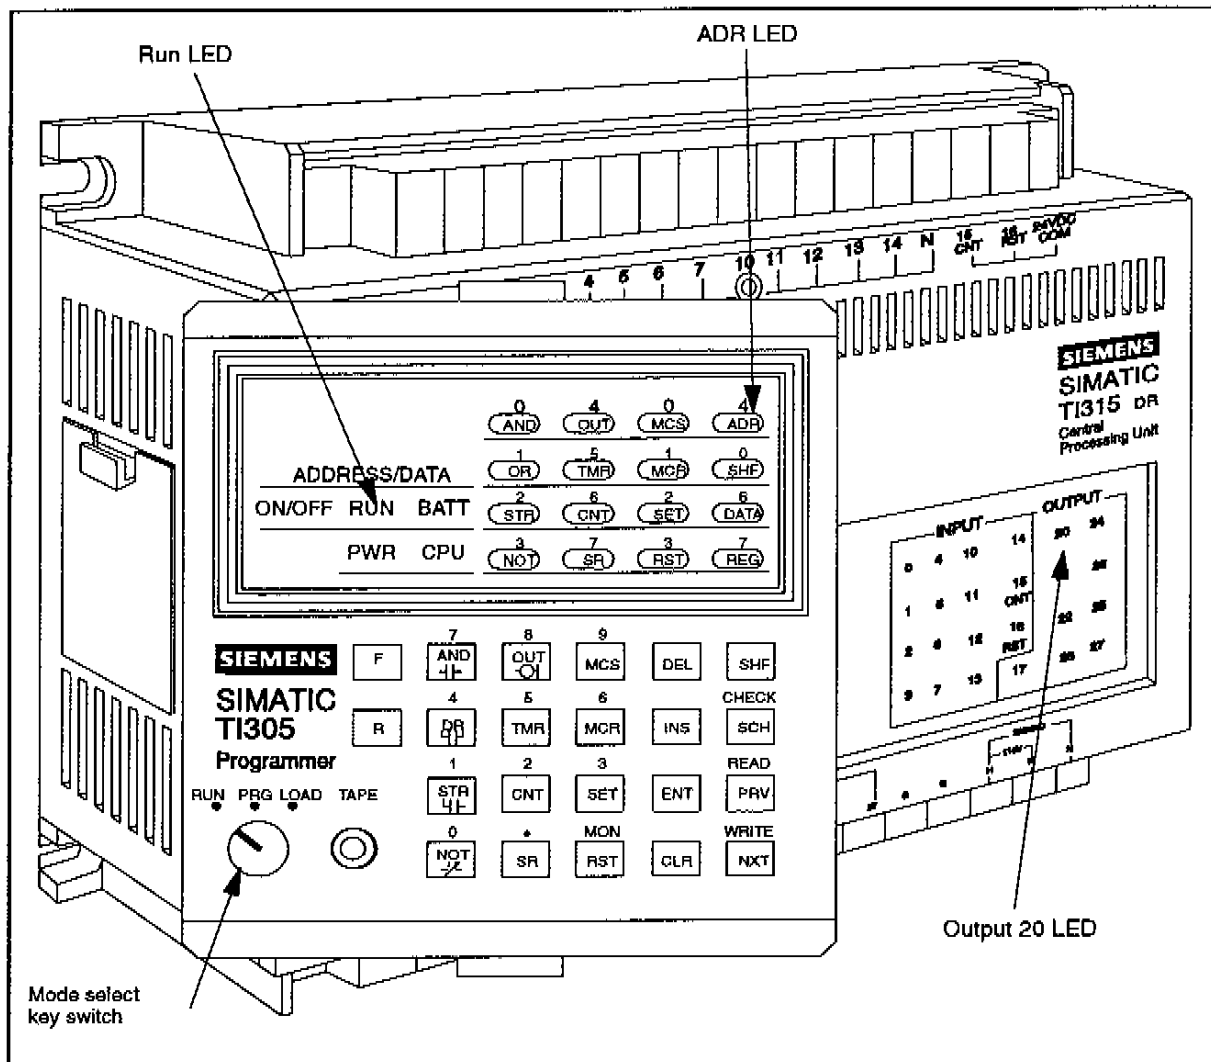

Figure 4-2 SIMATIC TI305 Programmer
5. Connect the TI305 Programmer to the front of the unit. The programmer display reads 0.0.0.0. and the ADR LED illuminates. (See Figure 4-2.)
7. Place the mode select key switch on the programmer in the RUN position (run mode). The RUN LED illuminates. (See Figure 4-2.)
12. Place the TI305 programmer mode select switch in the PRG position (program mode). (See Figure 4-2.)
16. Place the TI305 programmer mode select switch in the RUN position (run mode). (See Figure 4-2.)
17. Close the switch hard-wired to terminal 0. Output 20 LED on the TI315 unit illuminates. (See Figure 4-2.)